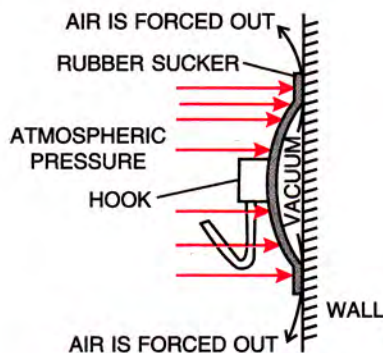

Fig. 4.16 Action of rubber sucker
- (iv) **Action of rubber suckers :** Rubber suckers are often used as hooks in the kitchen and bathroom. For this, rubber sucker is pressed hard against the wall (Fig. 4.16) so that the air between the sucker and the wall is forced out, creating a vacuum in between. The atmospheric pressure acting on it from outside then holds the sucker along with the hook on it firmly against the wall. For firm grip, the wall must be smooth.